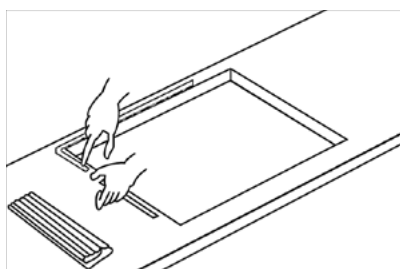

Figure 1
1. Lay out the protective sealing strips along the edges of the opening in the countertop and carefully unpeel the protective stickers while overlapping each strip end (see Figure 1).